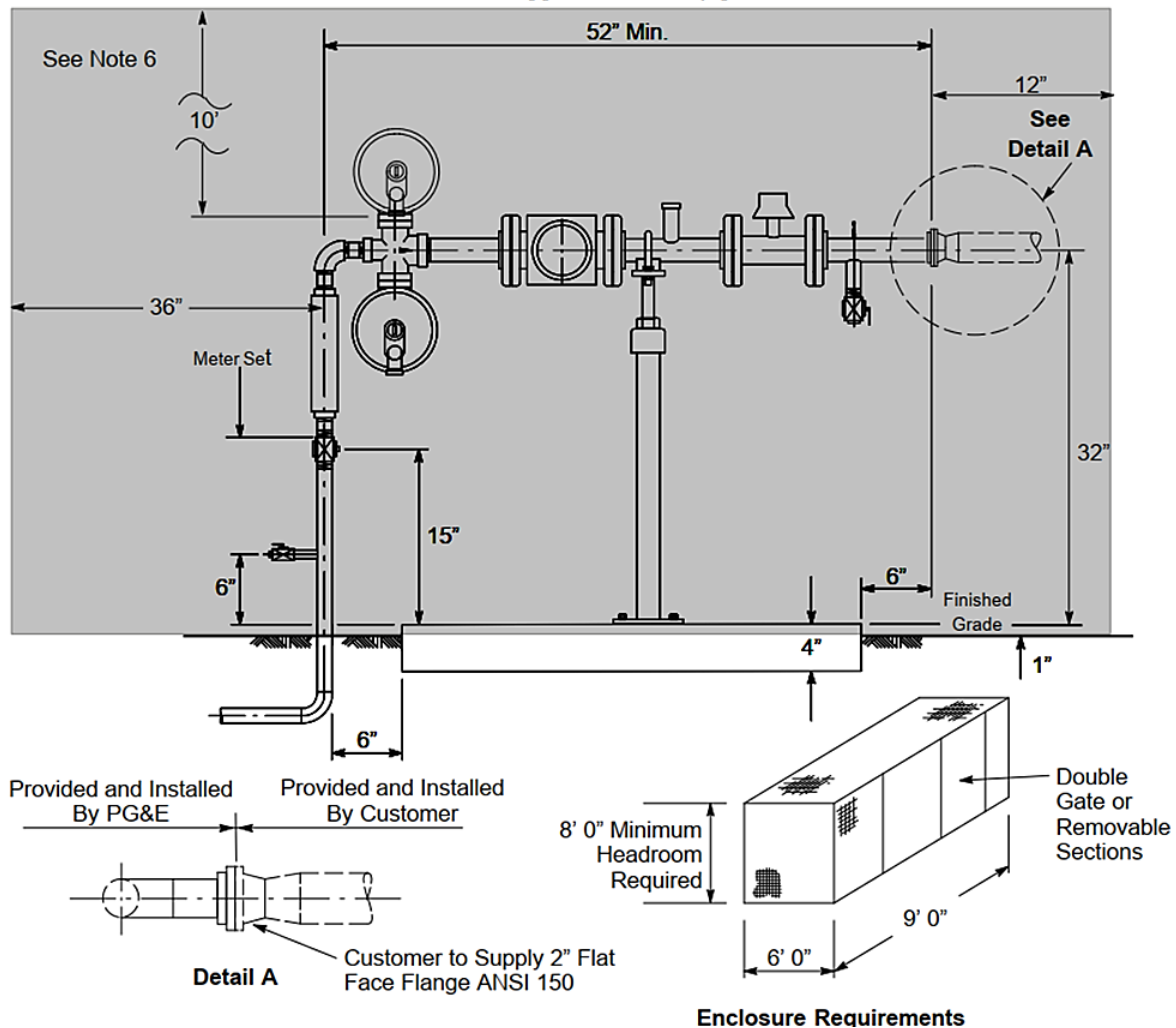

Figure 6. Typical 1.5M or 3M Rotary Gas Meter Set
- B. Figure 6 represents a rotary gas meter with 1401 through 3000 scfh at an approved delivery pressure.
- C. Notes in reference to Figure 6:
- (1) Customers must provide a 40-inch x 36-inch x 4-inch concrete pad with minimum #4 rebar that is typically 12-inches grid on center.
- (2) Customers must provide a 2-inch American National Standards Institute (ANSI) 150 flat face flange to connect to PG&E facilities.